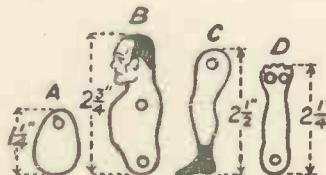
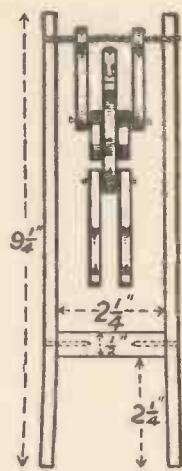

Fig. 1.—The Various Parts that make the Acrobat.
Fig. 2.—The Frame Measurements.
THE tumbling acrobat shown in the sketches above is a novel and entertaining toy and is quite easy to make, provided that you have a fret-saw. The arms and legs of the acrobat are hinged, and when you squeeze together the bottom ends of the frame, holding it in an upright position, the acrobat turns somersaults and can be made to perform all sorts of laughable tricks. First make the acrobat. Cut him out of three-ply wood, drawing the parts out from the outlines (Fig. 1). Cut two pieces of shape A, one of B, two of C, and two of D. Make the holes in each piece for the joints with a fretwork drill or a bradawl, and fasten the parts together by means of pieces of thin wire. A strong hair-pin can be utilised for this purpose. The ends of the wire are turned over, as you can see in Fig. 2. It is essential that the holes must be big enough to allow the wire to make a very loose fit, as the acrobat will not perform properly if his joints are at all stiff.
**The Frame.**—The frame in which the acrobat performs is made from strip-wood. The uprights are  $9\frac{1}{4}$  in. long by  $\frac{1}{2}$  in. by  $\frac{1}{4}$  in. The cross-piece is  $2\frac{1}{4}$  in. long by  $\frac{1}{2}$  in. square. They are fastened together with two wire nails, as illustrated in Fig. 2. Cut a notch in the side of each upright, near the top, for the string to pass over.